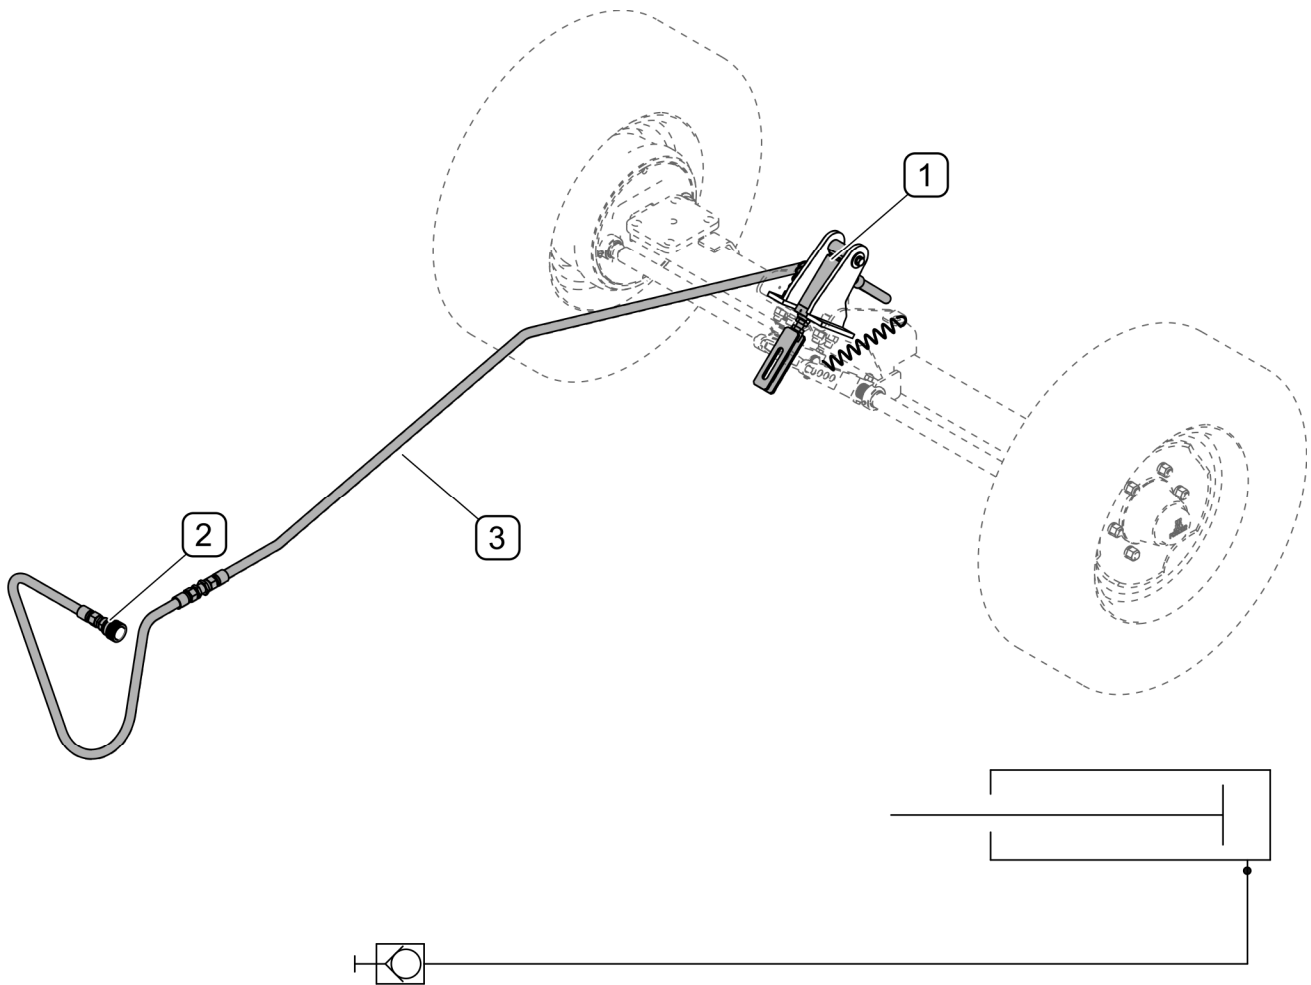

FIG. 3.5 Design of hydraulic brake system (option)
(1) - hydraulic cylinder; (2) - quick coupler; (3) - hydraulic line
Optionally, the sweeper can be equipped with hydraulic brake system (FIG. 3.5) that consists of hydraulic cylinder (1), quick coupler (3) and hydraulic conduit (3).